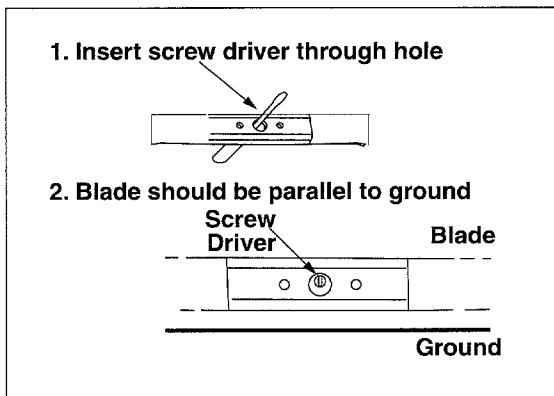

Figure 20
- An unbalanced blade will cause excessive vibration when rotating at high speeds and may cause damage to the unit. The blade can be tested for balance by balancing it on a round shaft screwdriver or nail. Remove metal from the heavy side until it is balanced evenly. See figure 20.